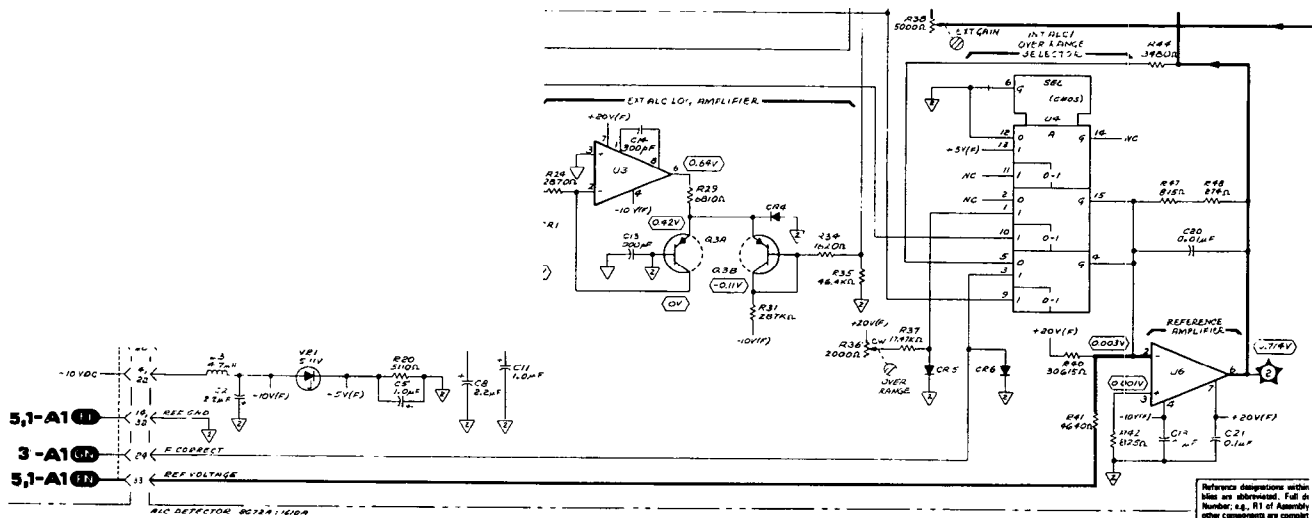

Figure 7-2. P/O ALC Loop Schematic (P/O Change S).
- Change the lower portion of the schematic as shown in Figure 7-2.